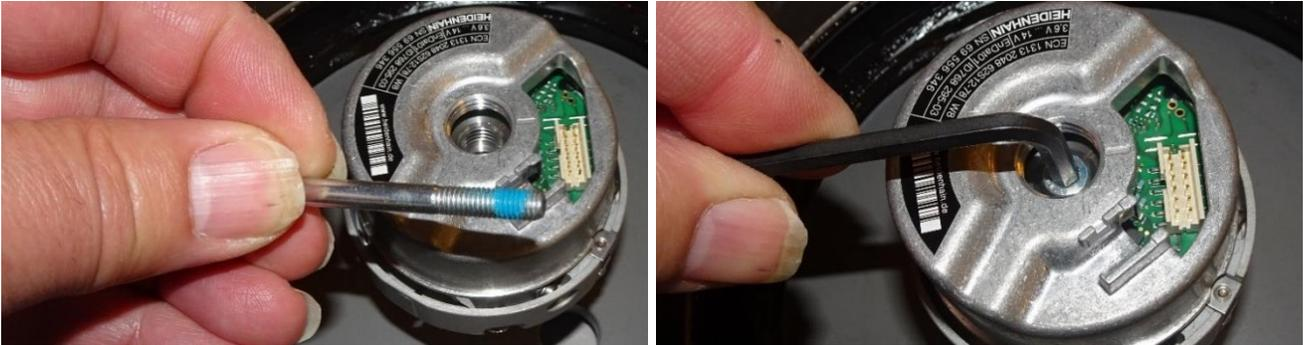

Figure 33
3. Install the encoder to the encoder cover. Use the bolt M5 to secure the encoder to the encoder cover by hex wrench (4mm). Use 4mm socket Allen and torque wrench to tighten the bolt to 44 in-lbs. See Figure 33.